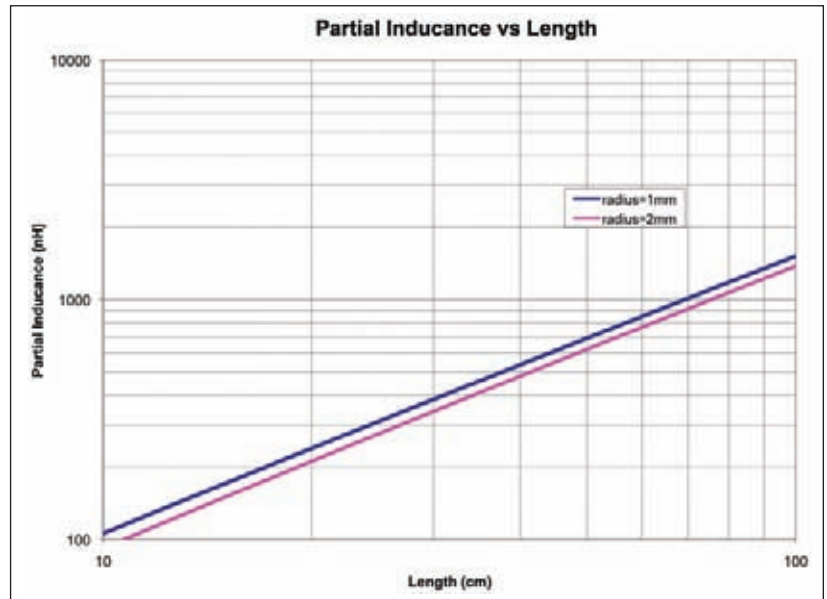

Figure 2: Partial Inductance vs Wire Radius
Examining equation (2), we can see that as the length of the conductor increases, so does the partial inductance associated with that conductor. Figure 2 shows how the partial inductance increases with wire length for a 1mm wire radius (calculated from (2)). Examining equation (3), we see the partial mutual inductance *increases* as distance